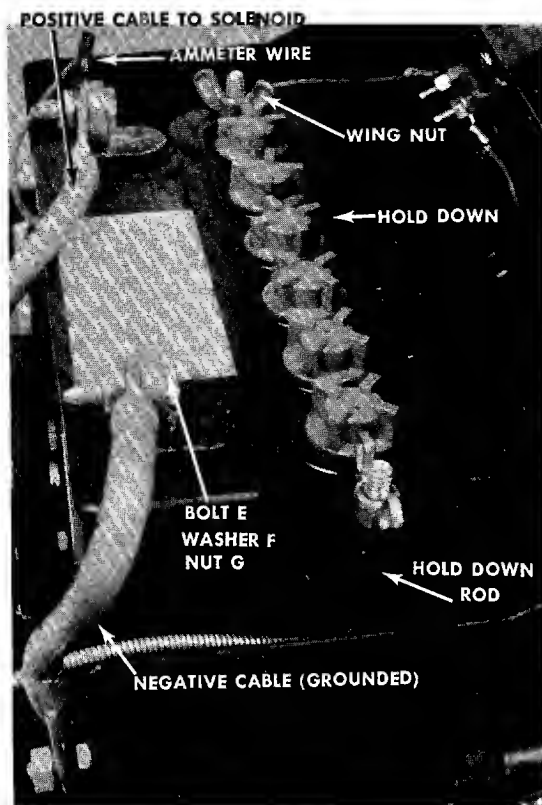

FIGURE 6. INSTALLING THE BATTERY
- b. Place the battery with the terminals to the FRONT in the battery case. See figure 6.